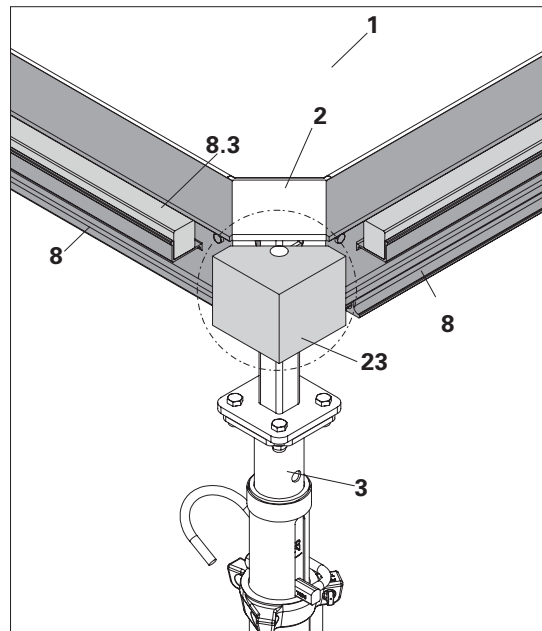

Fig. A7.06
1. Cut an infill plywood of 36 mm width and length = filler beam length (for e.g. 180 cm for ADF 180) and nail it to the timber infill (8.3) of the filler beam ADF (8). (Fig. A7.05 + Fig. A7.06)
3. Assemble the timber block (23) on flyplate pin of the drophead (2) at corner position and lock the wedge. (Fig. A7.06)
4. Erect the prop (3) attached with drophead (2) and timber block (23) at the wall corner in such a way that the timber block (23) touches the wall face in both directions. (Fig. A7.06)
7. Now, install the panel ADP (1) at the L-shaped corner.
3. Assemble the timber block (23) on flyplate pin of the drophead (2) near to beam corner position and lock the wedge. (Fig. A7.06 on page 29)